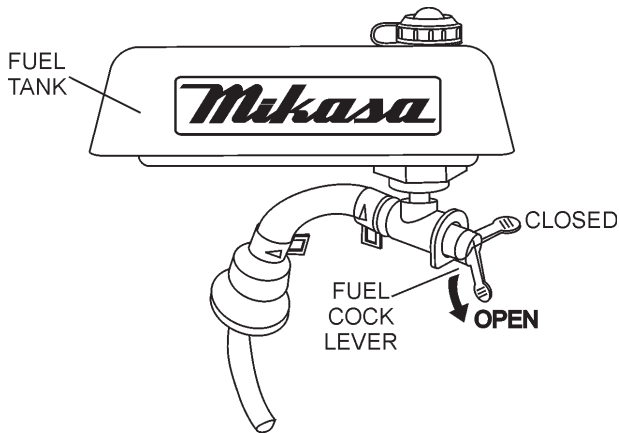

Figure 7. Fuel Shut-Off Valve (Open)
1. Open the **fuel shut-off valve** by moving the **fuel cock** lever to the **open** position (Figure 7).